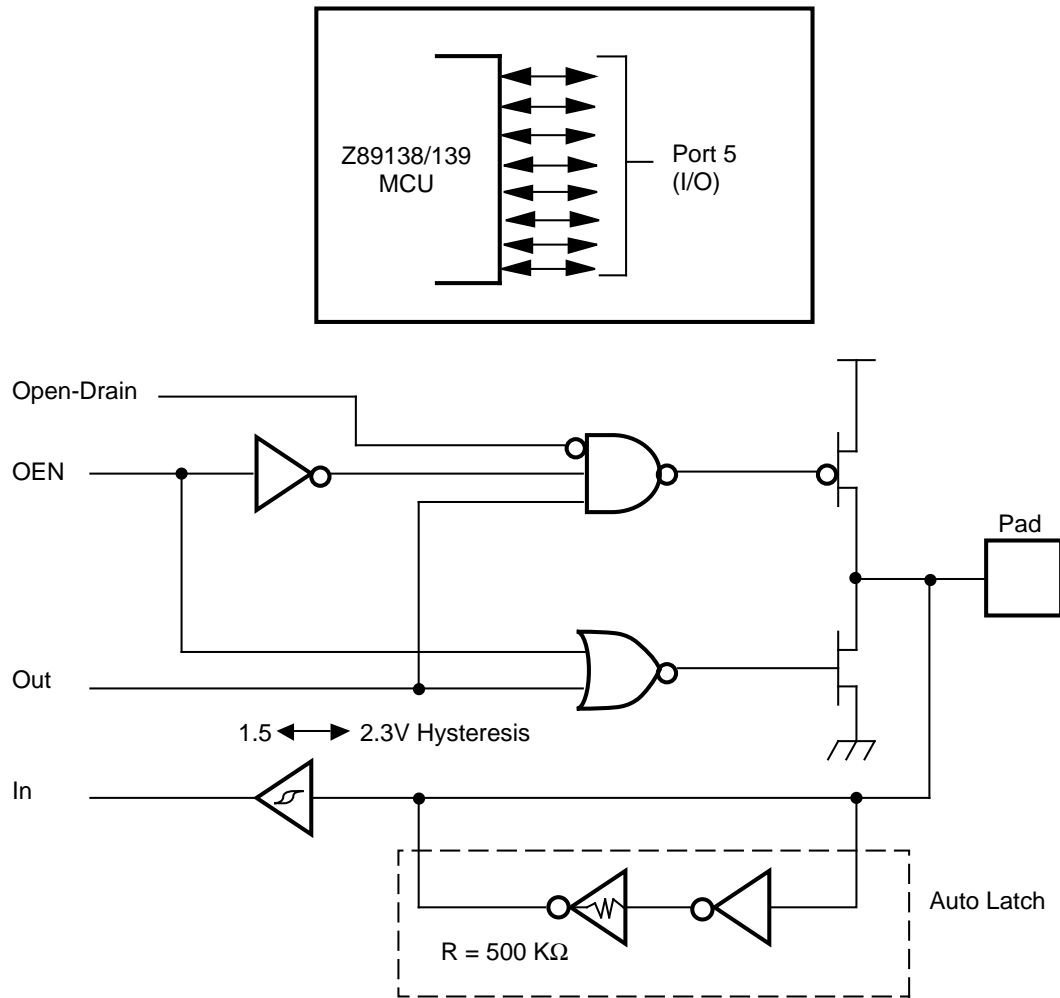

Figure 16. Port 5 Configuration
**Port 5 (P53-P50).** Port 5 is a 4-bit, bidirectional, CMOS compatible I/O port (Figure 16). These four I/O lines are configured under software control independently as inputs or outputs. Port 5 is always available for I/O operation. The input buffers are Schmitt-triggered. Bits programmed as outputs can be globally programmed as either push-pull or open-drain.